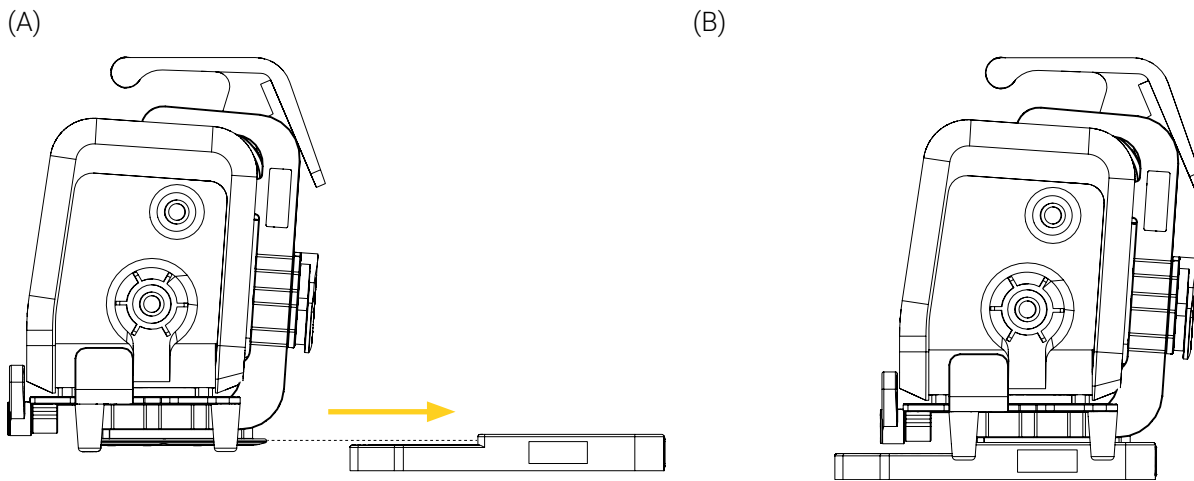

Figure 6: Installing the mounting bracket in the Extended Surface Base
1. Align and insert the mounting bracket in the Extended Surface Base until it locks (Figure 6). Refer to the « Safety Mechanism » section on page 18 if needed.